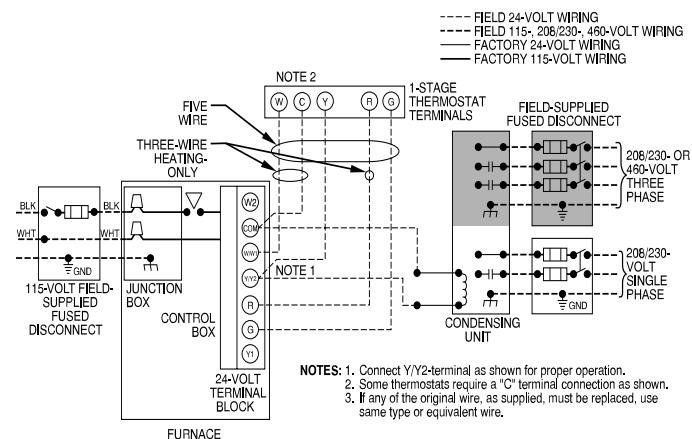

Fig. 32 – Typical Field Wiring Diagram
See Fig. 32 for field wiring diagram showing typical field 115-V wiring. Check all factory and field electrical connections for tightness.
6. Connect power cord power and neutral leads to furnace power leads as shown in Fig. 32.
5. Connect field power and neutral leads to furnace power leads as shown in Fig. 32.